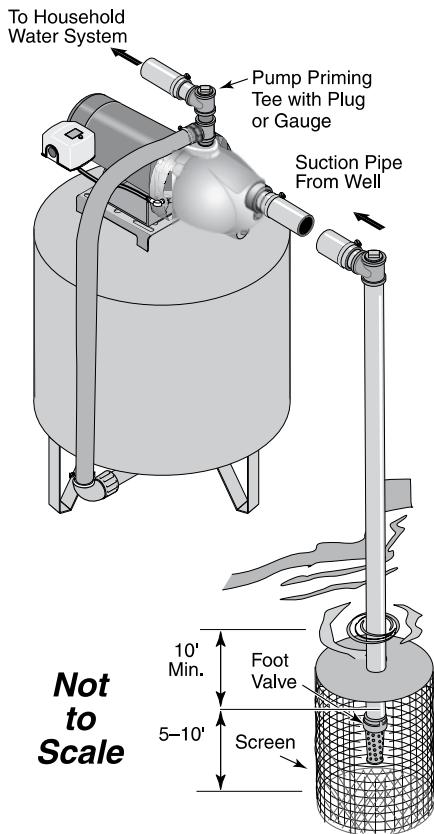

Figure 3: Surface Water Installation
INSTALLATION FOR SURFACE WATER (Figure 3)
Step 2. Assemble a foot valve and suction pipe (see Figure 3). Make sure that the foot valve works freely. Use PTFE pipe thread sealant tape on threaded pipe joints. Protect the foot valve assembly from fish, trash, etc, by installing a screen around it (see Figure 3).
Step 4. Install a priming tee, priming plug, and suction pipe to the pump (see Figure 3). Support the pipe so that there are no dips or sags in the pipe, so it doesn't strain the pump body, and so that it slopes slightly upward from the well to the pump (high spots can cause air pockets which can air lock the pump). Seal the suction pipe joints with PTFE pipe thread sealant tape. Joints must be air- and water-tight. *If the suction pipe can suck air, the pump cannot pull water from the well.*